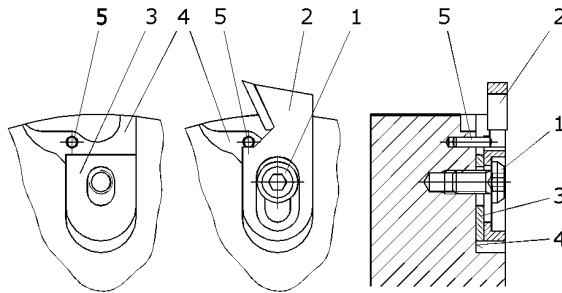

Fig.5
(See Fig. 5)
2. Loosen the screw (1) with the Allen key and completely remove it from the knife seat.
3. Remove the grooving knife (2) and the shim (3) from the knife seat (4).
4. Clean the knife seat (4) and all the corresponding components that go with it. Be sure all clamping surfaces are free from dirt, oil, grease and water.
6. Insert precisely the new grooving knife (see Fig. 5).
7. Put back the correct screws and press the grooving knife properly onto the positioning pin (5).